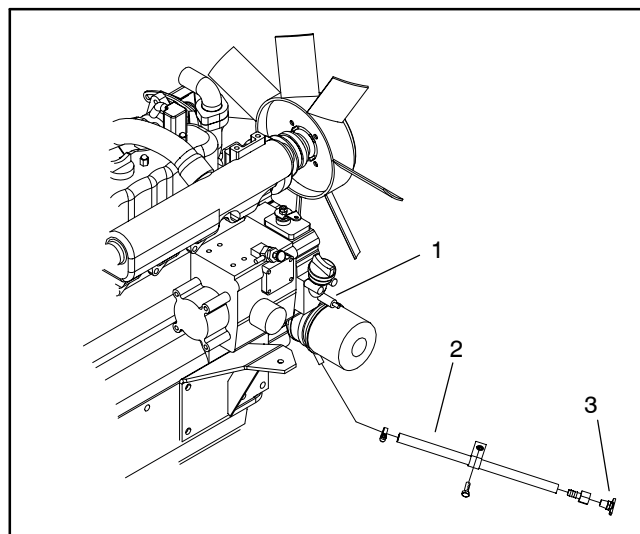

Figure 9
3. Remove radiator cap. Drain radiator into a suitable container using the coolant draincock. The coolant draincock and hose is attached to the engine oil filter housing (Figures 9 and 10).